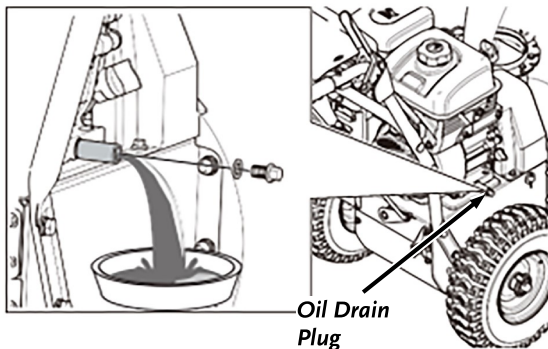

Figure 36
1. Position the machine so the Frame and Engine are level and place a Waste Oil Container under the Oil Drain Plug (**Figure 36**).